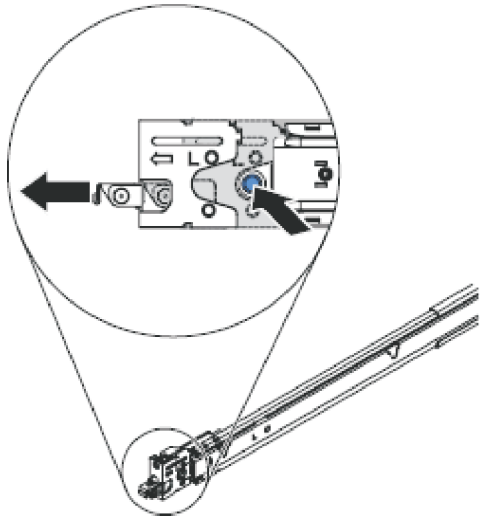

Figure 23. Preparing the front end of the slide rails
4. Prepare the front end of the slide rails, as shown in Figure 23 on page 29.